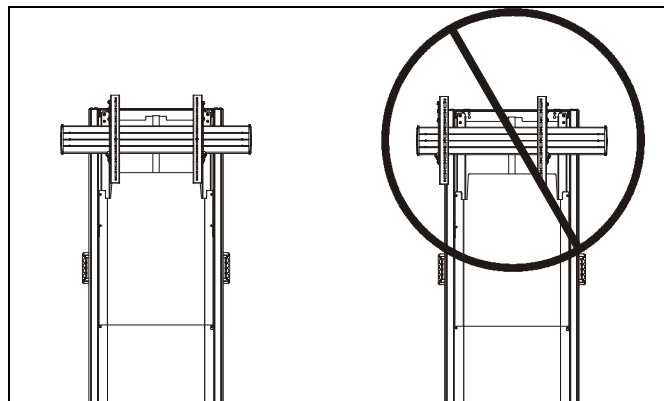

Figure 10
**WARNING:** In order to ensure an even mount and prevent cart from tipping over, uprights MUST be centered over column assembly. Do NOT install both uprights to the same side of column assembly! (See Figure 10)